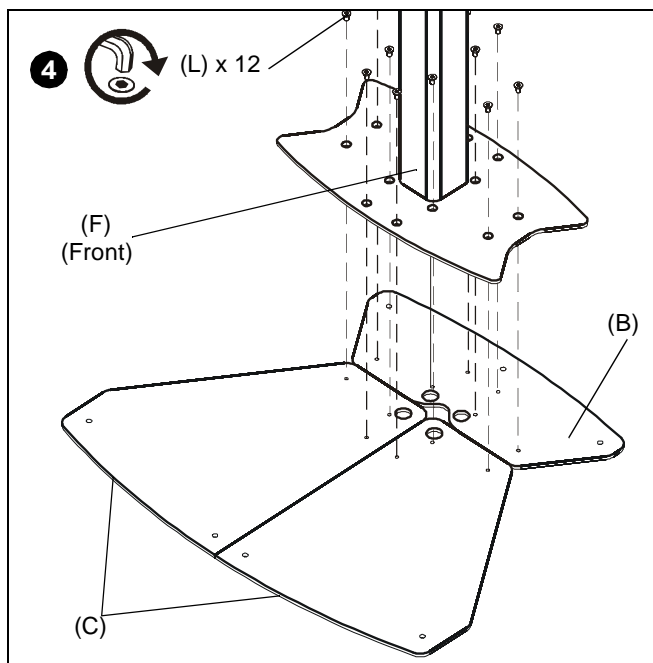

Figure 5
- Place top base section and center post assembly on top of the three base pieces with the center post front facing base pieces (C). (See Figure 5)
- Fasten lower base pieces (B and C) to top base section and center post assembly using twelve 5/16-18 x 1/2" flat head cap screws (L). (See Figure 5)